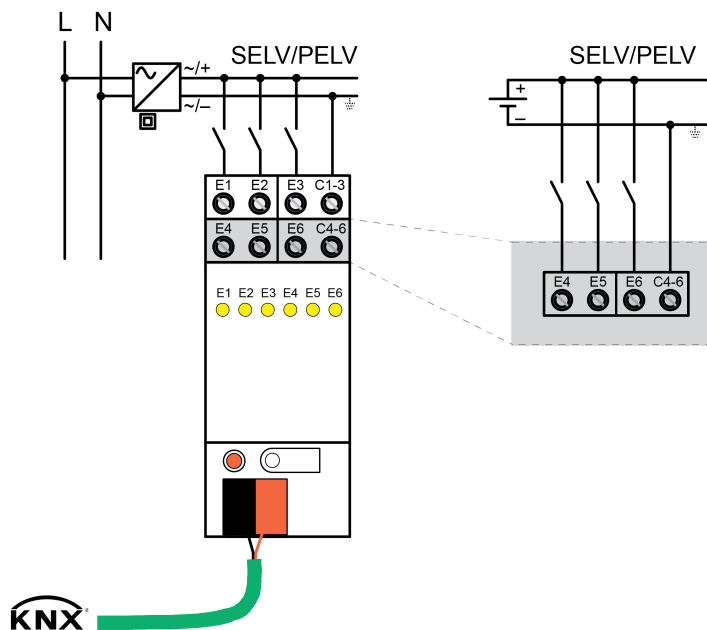

Figure 3: Connecting SELV/PELV circuits
- Connect SELV/PELV-supplied circuits as shown in the connection example (figure 3)Connecting . Comply with the polarity.